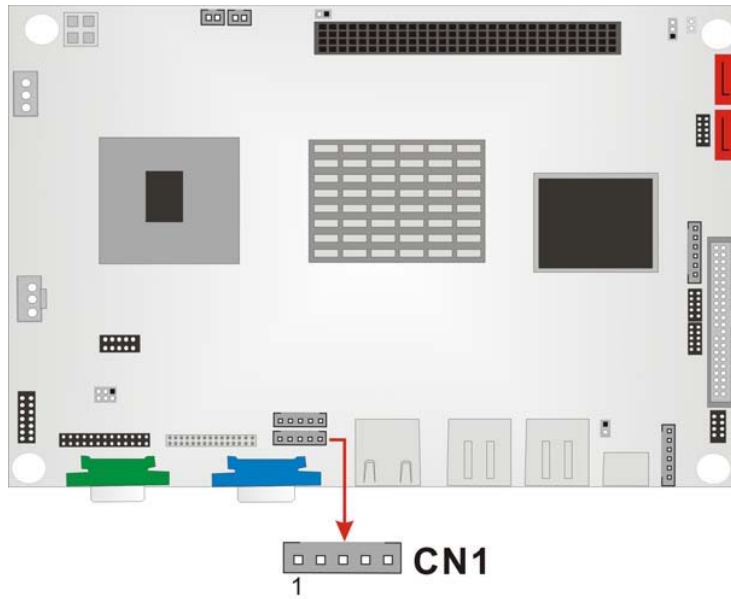

Figure 3-13: Inverter Connector Location
- CN Location:** See Figure 3-13